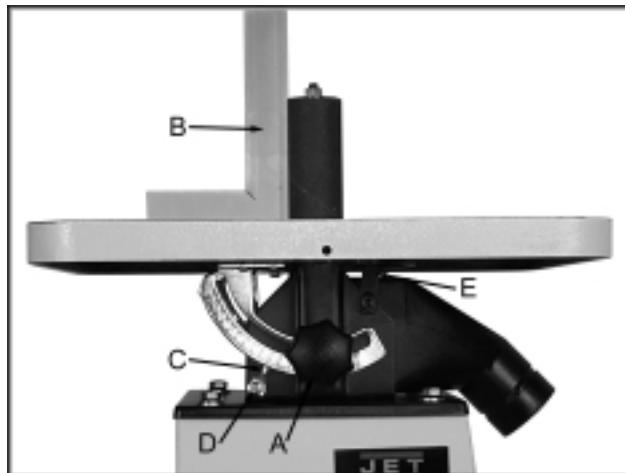

Fig. 3
1. Loosen both knobs, (A, Fig. 3) and place the table in the 0° position.
2. Place a square (B, Fig. 3) on the table. Rest the long section of the square against the sanding drum. The square should be flat agianst the table and the sanding drum.
4. Make sure the pointer (C, Fig. 3) reads 0°. If the pointer needs adjusted loosen the screw (D, Fig. 3), and adjust to the correct position.
5. Adjust the 90° stop (E, Fig. 3) with a hex wrench so that it rests against the bottom side of the table.